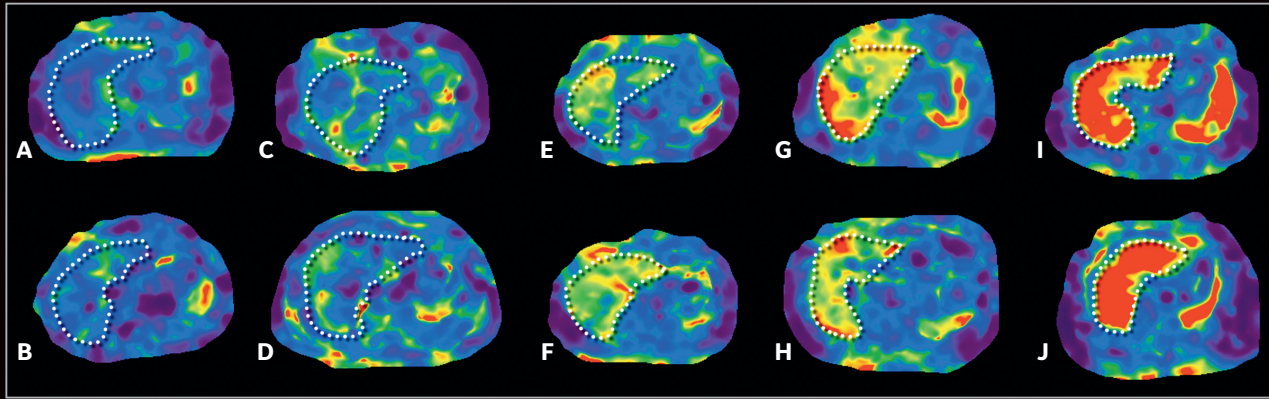

Figure 2. MR Touch helps the clinician identify variations in liver tissue stiffness. (A, B) Fibrosis 0 (F0); (C, D) F1; (E, F) F2; (G, H) F3; and (I, J) F4.
Figure 2. Patient with right radicular pain. (A, B) Sagittal and axial T2 images demonstrate disk extrusion to the right paracentral with indentation of L5 right traversing the nerve root. (C) DTI with tractography shows the indentation of the right L5 traversing the nerve root.